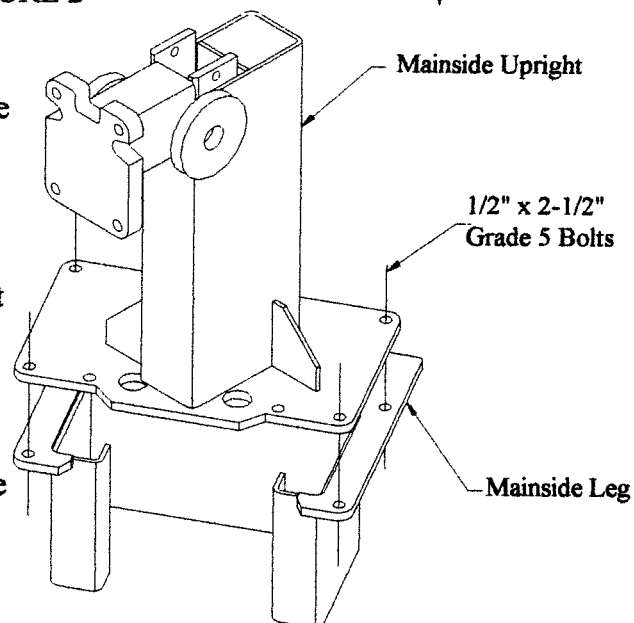

FIGURE 3
5. Position the two legs on the floor on their backs. Refer to Figure 3. Attach the mainside upright to the mainside leg using five 1/2" x 2-1/2" grade 5 bolts. The mainside leg has a bracket on its back for mounting the power unit. The mainside upright has a bracket on its side for mounting the upright ring weldment and a bracket for mounting the bulkhead tee fitting. Attach the offside upright to the top of the offside leg using five 1/2" x 2-1/2" bolts.